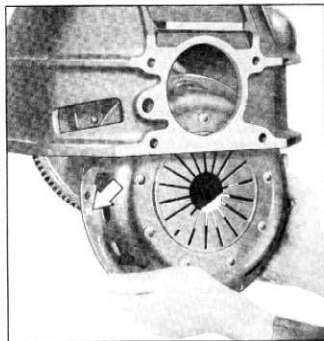

Fig. 72—Installing Clutch Assembly
- b. Turn the clutch cover until the "X" on the cover lines up with the "X" on the flywheel (fig. 72). Install the attaching bolts loosely and then tighten them a turn at a time to take up the spring pressure evenly and prevent clutch distortion. Tighten bolts to 25-30 foot pounds torque with a torque wrench and then remove pilot tool.